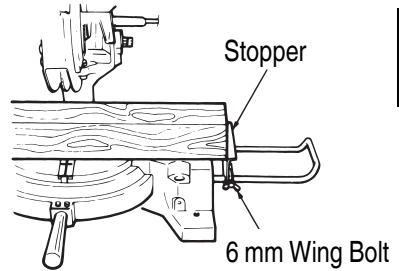

Fig. 5
3. Cutting of workpiece of fixed length (**Fig. 5**)